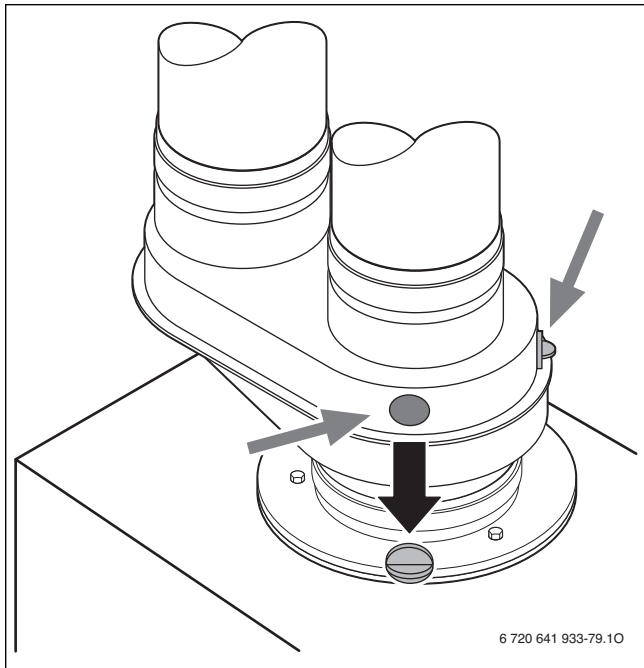

Fig. 56 Open one of the flue gas test ports
- ▶ Remove plug from flue gas test port (→ Fig. 56, page 46 ).